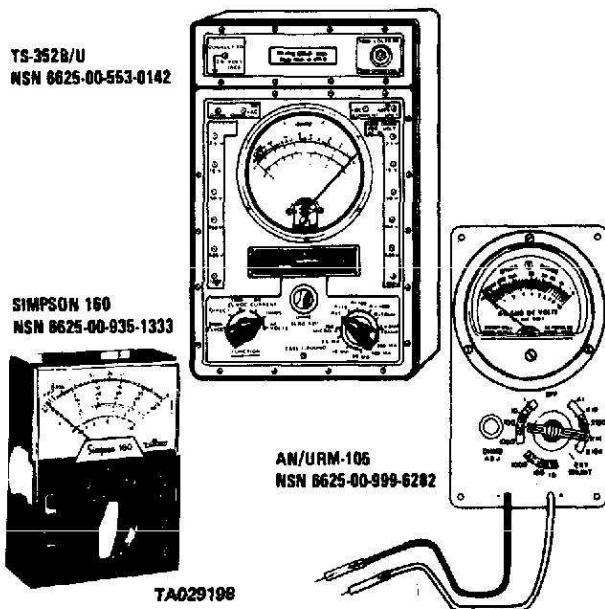

Figure 2-13. Shop Set Multimeters.
a. Any one of three multimeters may be found in the Common No. 1 and No. 2 Organizational Maintenance Automotive Shop Sets. The three meters, shown in figure 2-13, are the Simpson 160, the TS-352 B/U, and the AN/URM-105. These meters all do the same job, and any one of the three can be used to troubleshoot the truck.